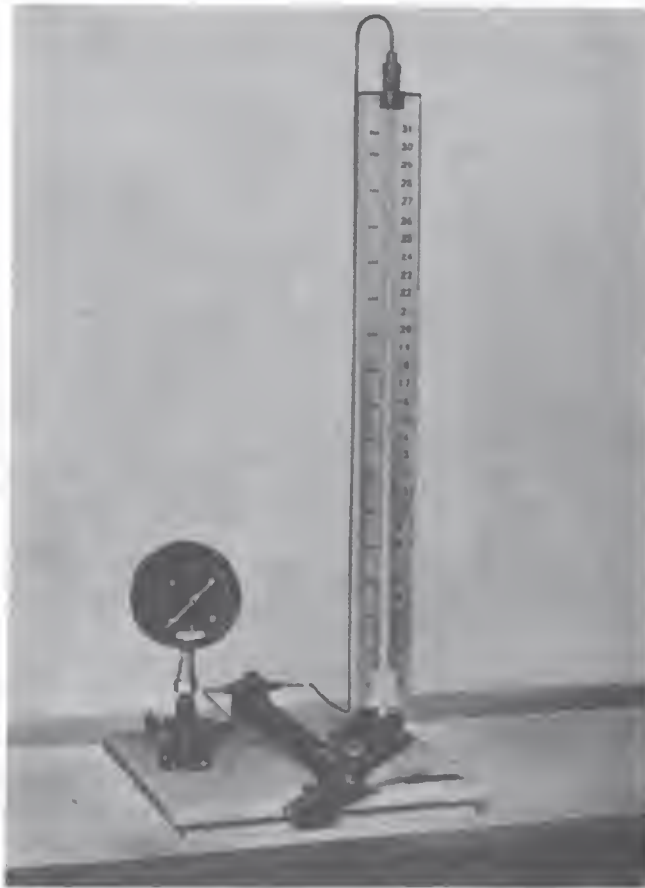

Figure 258. — Vacuum gage tester.
*Vacuum gage tester.* — Vacuum gages are tested with a vacuum pump and a mercury column vacuum gage. These vacuum gage testers, one of which is shown in figure 258, are accurate and easy to operate. Since a perfect vacuum cannot be created by